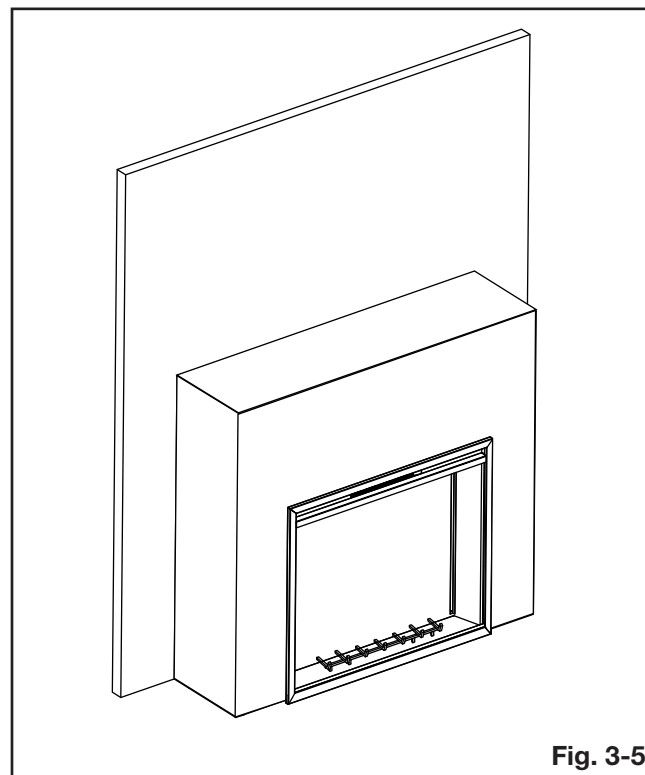

Fig. 3-5
- Carefully lift the appliance into the rough-in framing (**Fig. 3-5**).